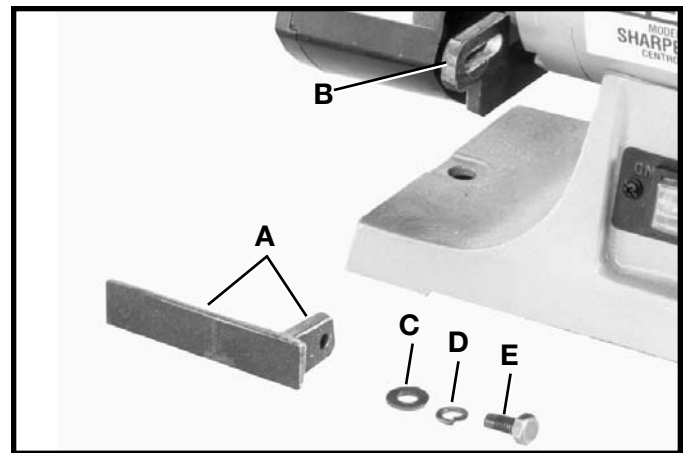
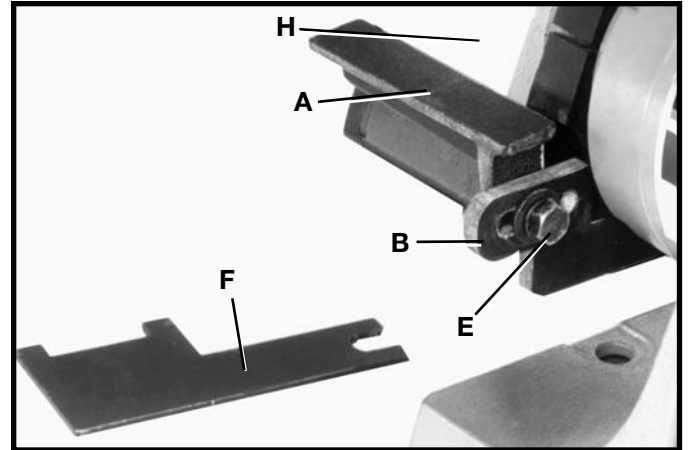

Fig. 7
Fig. 8
1. Assemble dry wheel tool rest (A) Fig. 7, to mounting arm (B) using flat washer (C), lockwasher (D) and 5/8" long hex head screw (E). Place a lockwasher then a flat washer on the hex head screw, then assemble tool rest to mounting arm as shown in Fig. 8.
2. Figure 8, illustrates dry wheel tool rest (A) assembled to mounting arm (B). Wrench (F) supplied, is used to tighten screw (E).
3. The tool rest (A) Fig. 8, is adjustable so the inside edge of the tool rest can be positioned as close to the grinding wheel (H) as possible, giving maximum support to the piece that is being ground. Always maintain a distance of 1/8" or less between the grinding wheel (H) and inside edge of tool rest (A). As the grinding wheel wears down to a smaller diameter, readjust the tool rest closer to the wheel by loosening screw (E), moving tool rest (A) inward and tightening screw (E) using wrench (F). The tool rest (A) can also be rotated to any desired angle by loosening screw (E), rotating tool rest (A) and tightening screw. Rotate dry wheel (H) making certain wheel does not contact tool rest (A).